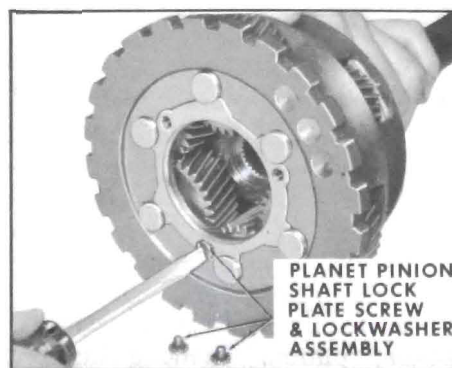

Figure 5-255
1. Remove three (3) planet pinion shaft lock plate screw and lock washers. See Figure 5-255.